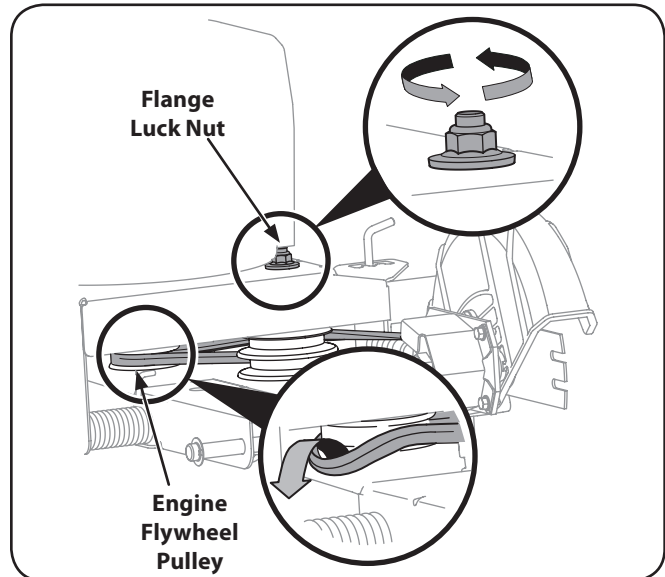

Figure 7-1
NOTE: To aid in reassembly, note the orientation of the drive belt on the two idler pulleys and the engine flywheel pulley prior to performing the following steps. Refer to Figure 7-1.
1. Working in front of the edger, loosen the flange lock nut on top of frame, allowing the idler pulley assembly to pivot slightly out from the frame. See Figure 7-1.
2. With your other hand, carefully reach under the rear of the edger and remove the belt from around the engine flywheel pulley. See Figure 7-1.